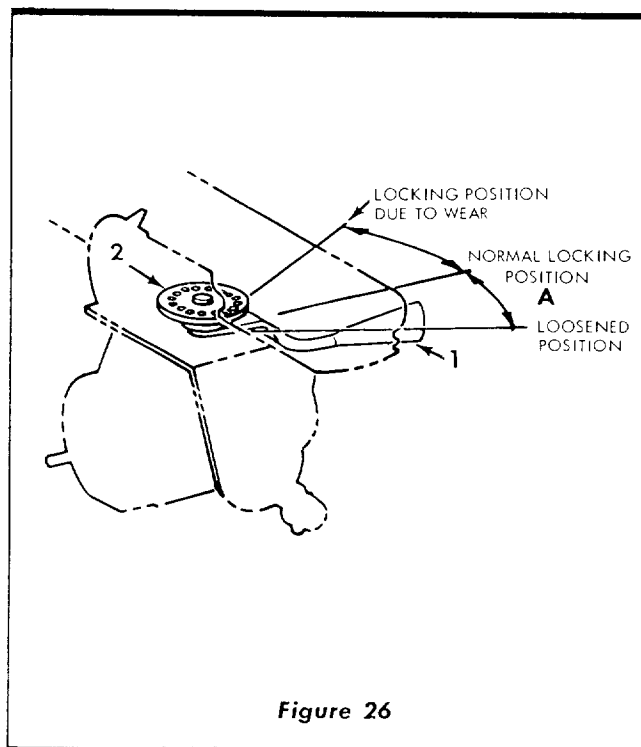
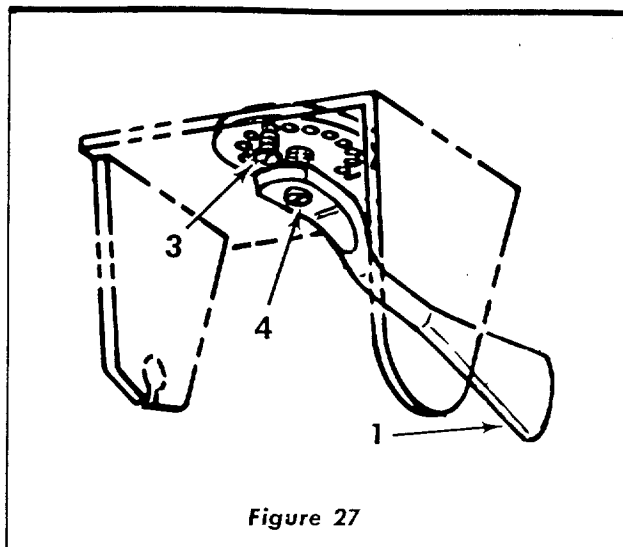
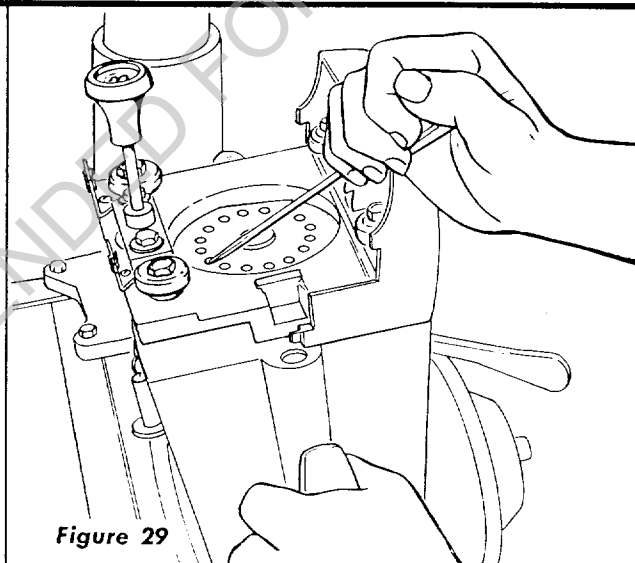

Figure 26
Figure 27
Figure 29
The normal locking position of the yoke clamp handle (1, figure 26) is approximately midway between the two sides of the yoke.
2. Set yoke clamp handle to Position "A", (figure 26), which is just slightly ahead of the mid-position of handle.
6. Remove the lock screw (3, figure 27).
7. Using a screwdriver or similar tool, rotate the yoke clamp assembly (2, figure 26) clockwise (when looking down) until the next hole will line up with the lock screw (See figure 29). Usually, rotating the yoke clamp assembly one hole will correct this adjustment. However, in some cases it may be necessary to rotate it two holes.
8. Make sure the hole in yoke clamp assembly (2, figure 26) lines up with lock screw hole and install and tighten lock screw (3, figure 27).